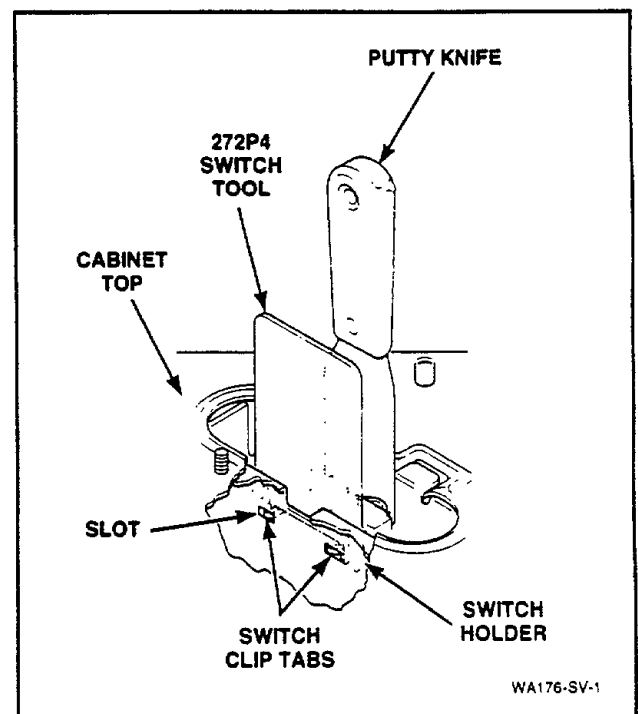

Figure 45
- Place a putty knife, or similar device, on backside of switch clip, *Figure 45*; push on switch clip as you carefully pull the switch tool out between switch and holder, allowing the switch clip tabs to engage with slots in holder, *Figure 45*.